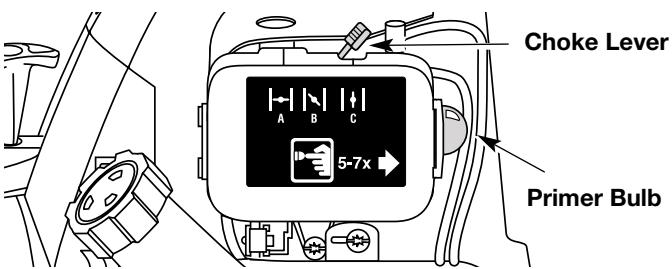

Fig. 9
4. Place the choke lever in the **FULL** choke (A)  position (Fig. 9).
**NOTE:** Slide the choke lever directly above the appropriate symbol on air filter cover decal (Fig. 9).
5. Fully press and release the primer bulb slowly 7 times. Gasoline should be felt and visible in the bulb (Fig. 9). If gasoline has not entered the bulb, press three more times, or until it does.
8. Move the choke lever to the **PARTIAL (B)**  position (Fig. 9).
**NOTE:** The engine will not run in the **FULL** choke (A)  position.
10. Move the choke lever to the **RUN (C)**  position and run at full throttle for 30 seconds.
2. Move the choke lever to the **PARTIAL (B)**  position (Fig. 9).
3. Fully press and release the primer bulb slowly 7 times. Gasoline should be felt and visible in the bulb (Fig. 9). If gasoline has not entered the bulb, press three more times, or until it does.